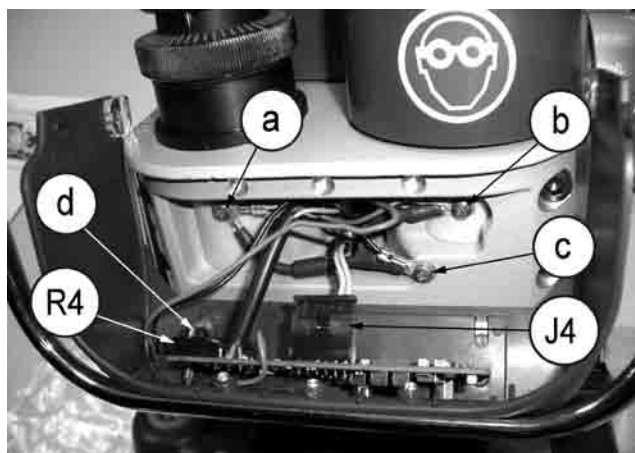

Fig. 70
- 2) Detach the connectors (J4 and (R4) (Fig. 70).